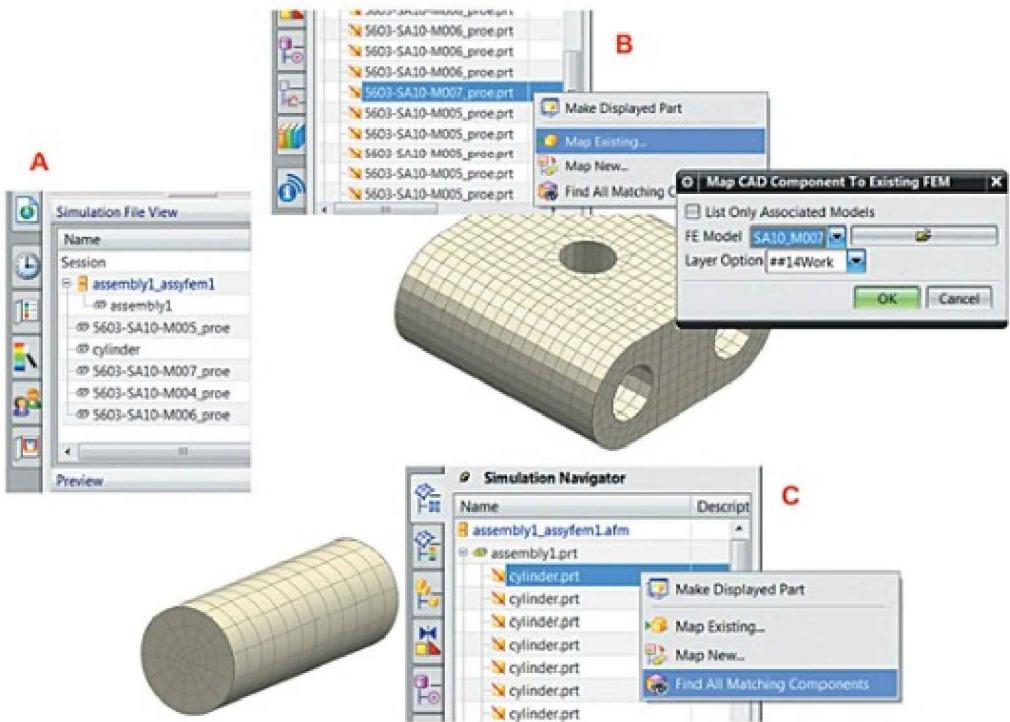

Figure 3.77. Populating the assembly FE model
5. Note that the **Simulation File View** dialog box shows all loaded files, and the last loaded FE model file is active. Double-click the assembly FE model file (Figure 3.77, A).
The next step involves adding component FE models one-by-one to the assembly FE model. The order is not important. In the assembly FE model, right-click *5603-SA10-M007_proe.prt* and select **Map Existing....** In the dialog box, select the FE model associated with the selected CAD model of the assembly component (Figure 3.77, B). There are three ways to do this:
If the assembly consists of identical components that correspond to a single FE model, you don't need to repeat the previous step for each of the CAD components. You only need to select all identical ones and add the corresponding FE model. In the FE model tree, right-click *cylinder.prt* and choose the **Find All Matching Components** command (Figure 3.77, C). For highlighted components, right-click and choose the **Map Existing...** command. In the dialog box, select the *cylinder1* FE model associated with the selected CAD model of the assembly component. **Click OK**.